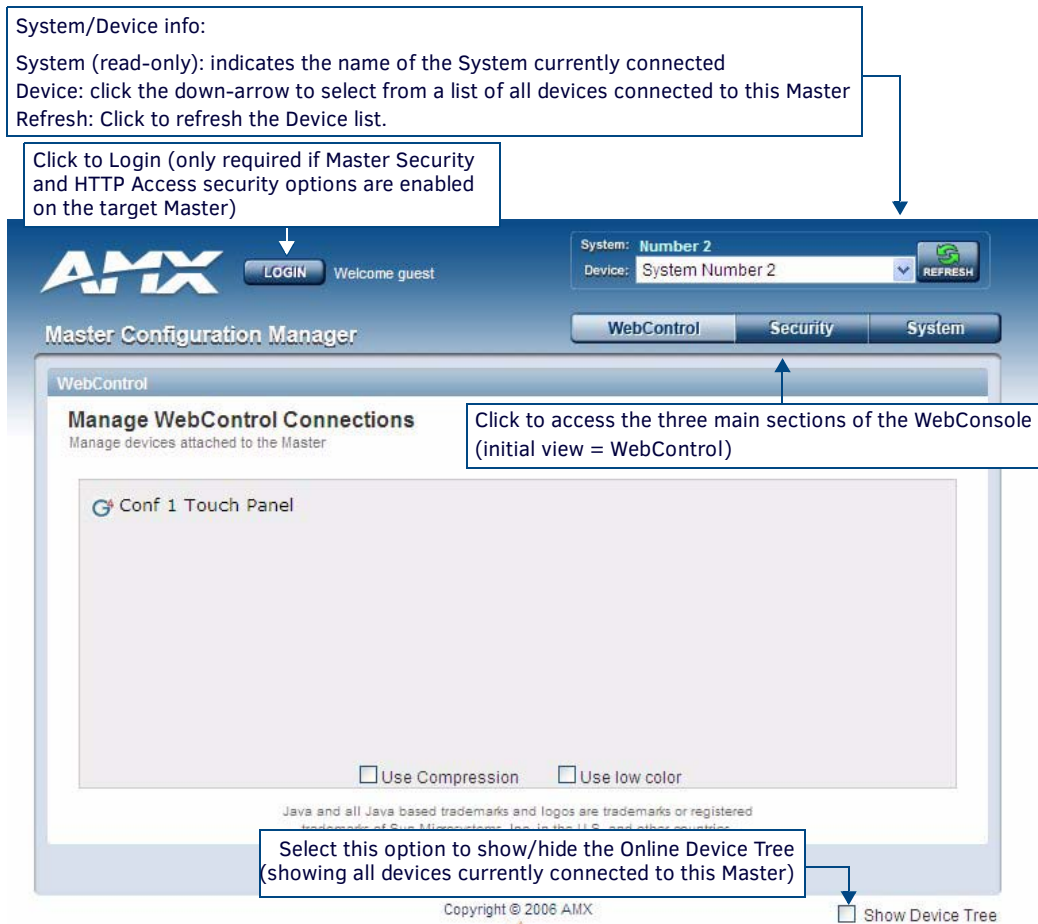

FIG. 48 Master Configuration Manager - WebControl Page (initial view)
- c. Press **Enter** to connect to the Master and open the WebConsole. The initial view is the *WebControl* page, as shown in FIG. 48.